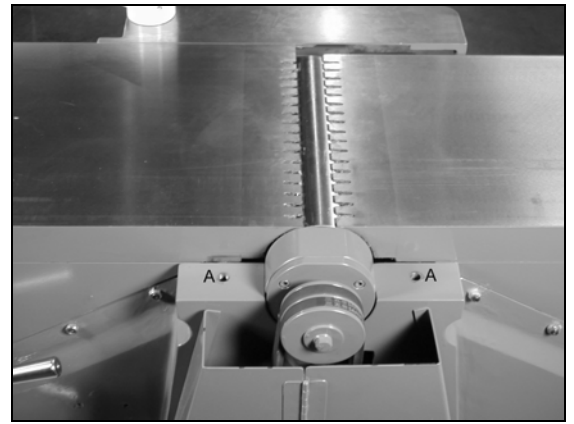
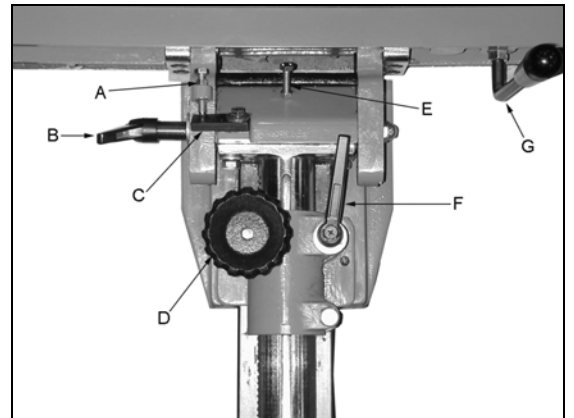

Figure 4
Figure 5
The 6" dust collection port (A, Figure 4) is located below the outfeed table. Typically flex hose is used to run from this point to a central trunk line.
1. Mount the fence (Figure 5) to the machine base (Figure 4) lining up the holes (A), using the allen bolts provided.
The various adjustments, locks and handles are shown in Figure 5.
2. Loosen the angle lock handle (B, figure 5).
3. Ensure the 90 degree flip stop (C, Figure 5) is in the 90 degree position.
4. Loosen the jam nut on the 90 degree adjusting bolt (A, figure 5) and adjust the bolt against the flip stop until the fence becomes true with the square.
To tilt the fence, see Figure 5. Loosen angle lock handle 'B', flip up the stop 'C', and tilt the fence with the fence angle adjusting handle 'G' to the desired angle. Use a protractor or adjustable triangle to set the angle. A 45 degree stop, 'E' is provided for quick set-up at this angle.